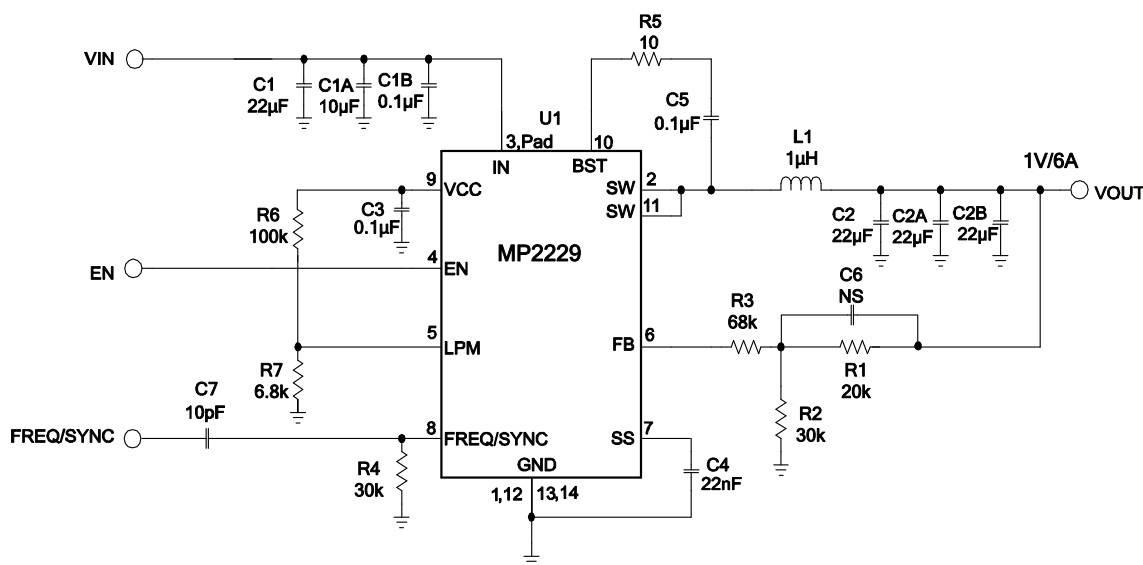

FIGURE 11. $V_{IN}=12V$, $F_S=500kHz$, $V_{OUT}=1V$, $I_{OUT}=6A$
- 10) The recommended layout is based on the Figure 11 "Typical Application Circuit" on Page19.
The detailed application schematics are shown in Figure 11. The typical performance and circuit waveforms have been shown in the “Typical Performance Characteristics” section. For additional device applications, please refer to the related evaluation board datasheets.